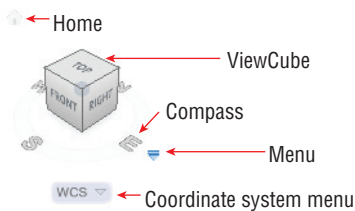

FIGURE 16.10 ViewCube navigation interface
2. Open the ViewCube menu (see Figure 16.10), and select Set Current View As Home.